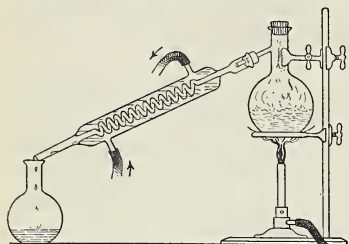

Fig. 95. A glass still. Cool water circulating through the outer tube, Liebig condenser, cools the inner tube, causing the steam to condense to water.
**Distilled water.** Water may be freed of all the dissolved minerals by distillation. On boiling, water evaporates as steam. The minerals remain. When the steam is condensed by cooling, we have distilled water. Of natural waters, only rain water compares with it in purity. Rain water is naturally distilled water, but contains gases dissolved from the atmosphere. Figure 95 shows a glass still often used in the laboratory.